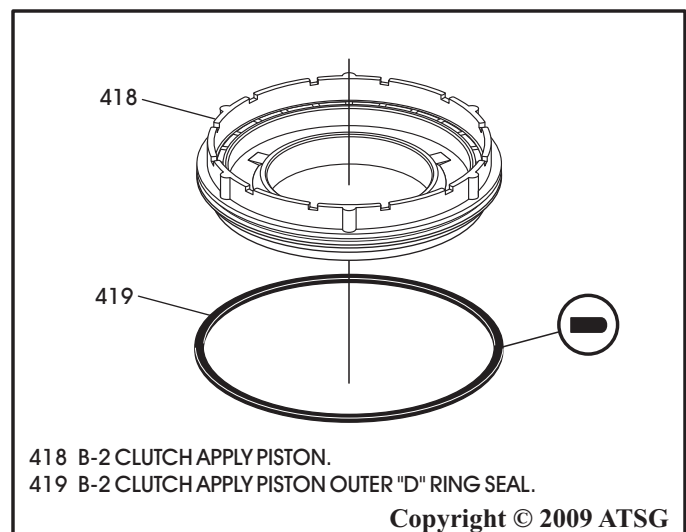

Figure 155
10. Install a new outer "D" ring seal on B-2 clutch apply piston, as shown in Figure 155, and lube with a small amount of Trans-Jel®.